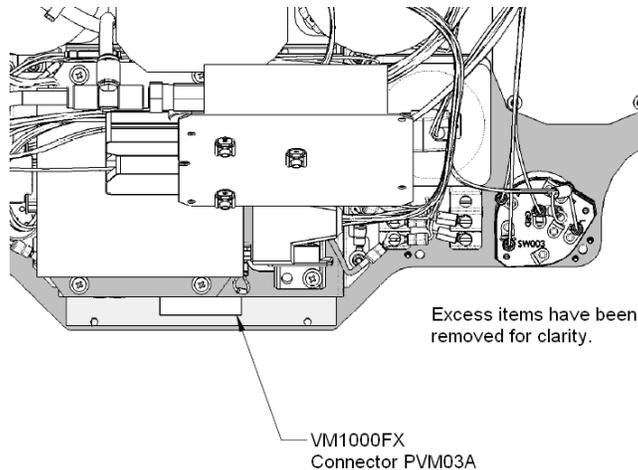

Figure 31-8 Location of the Connector on the VM1000FX
5. Connect the ribbon cable to the VM1000FX display. See Figure 31-8 for the location of the connector on the VM1000FX.